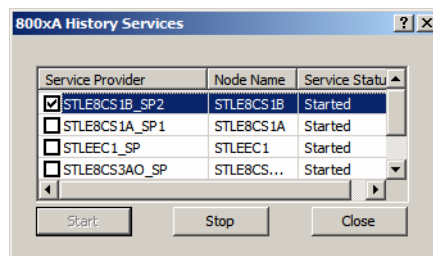

Figure 106. 800xA History Services
7. Check the appropriate Service Provider in 800xA History Service Manager as shown in Figure 106 and click **Stop**.